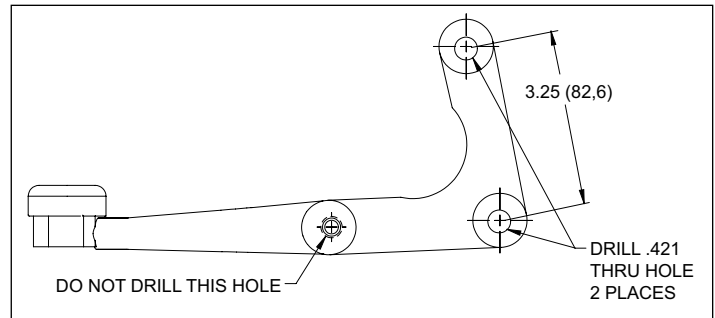

Figure 3. Steering Arm Modification
•To enable installation of the Wilwood caliper bracket, two holes on the steering arm need to be drilled out to .421" diameter, Figure 3